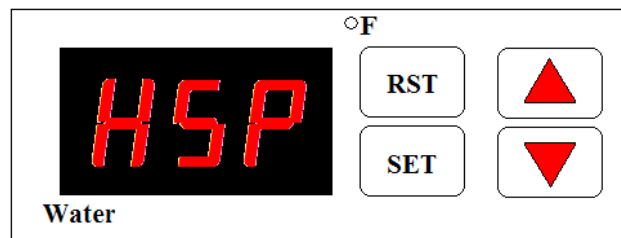

Figure 2
- Press the SET key on the control. HSP will now be displayed as shown in Figure 2 below.